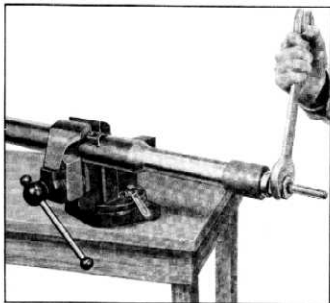

Fig. 9—Removing Torque Tube Bushing
3. Assemble puller flange on front of torque tube, then thread thrust bearing and nut on shaft. Turn nut to pull both bushings and oil seal from the torque tube (fig. 9).